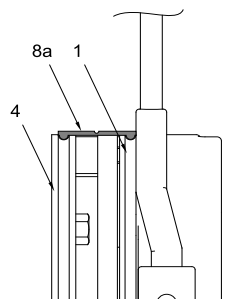

Figure 55 – Traverse Drive Brake Seal
- Press the lips of the seal into the grooves in the stator (1) and the mounting flange (4) (see Figure 55).